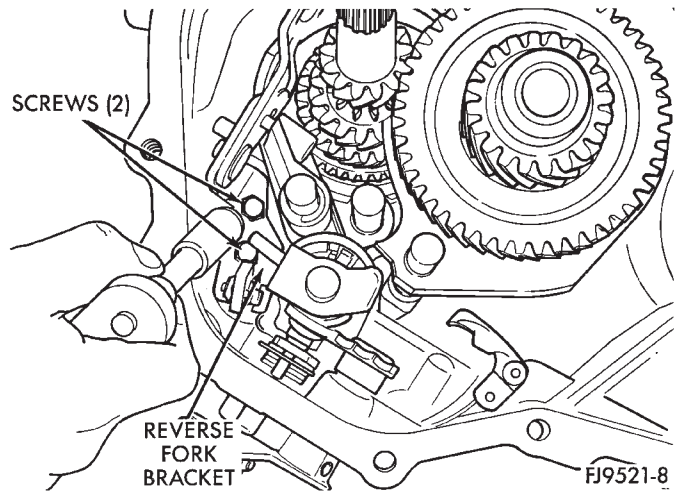
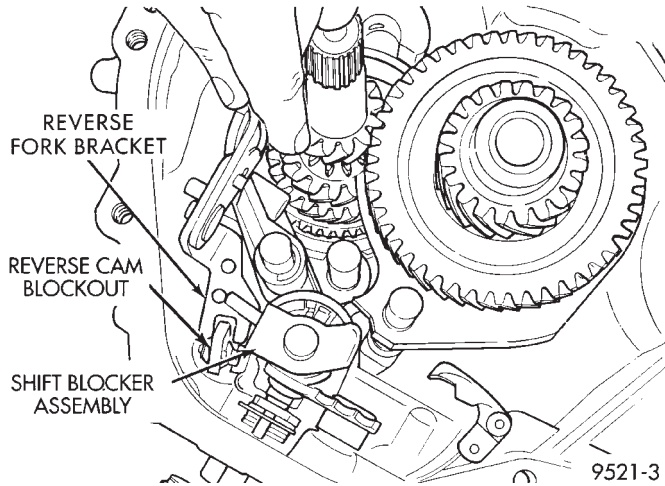

Fig. 46 Screws Retaining Reverse Fork Bracket
Fig. 47 Remove Reverse Fork Bracket
(8) Remove two screws retaining reverse fork bracket (Fig. 46). Remove reverse fork bracket and reverse cam blockout assembly (Fig. 47).